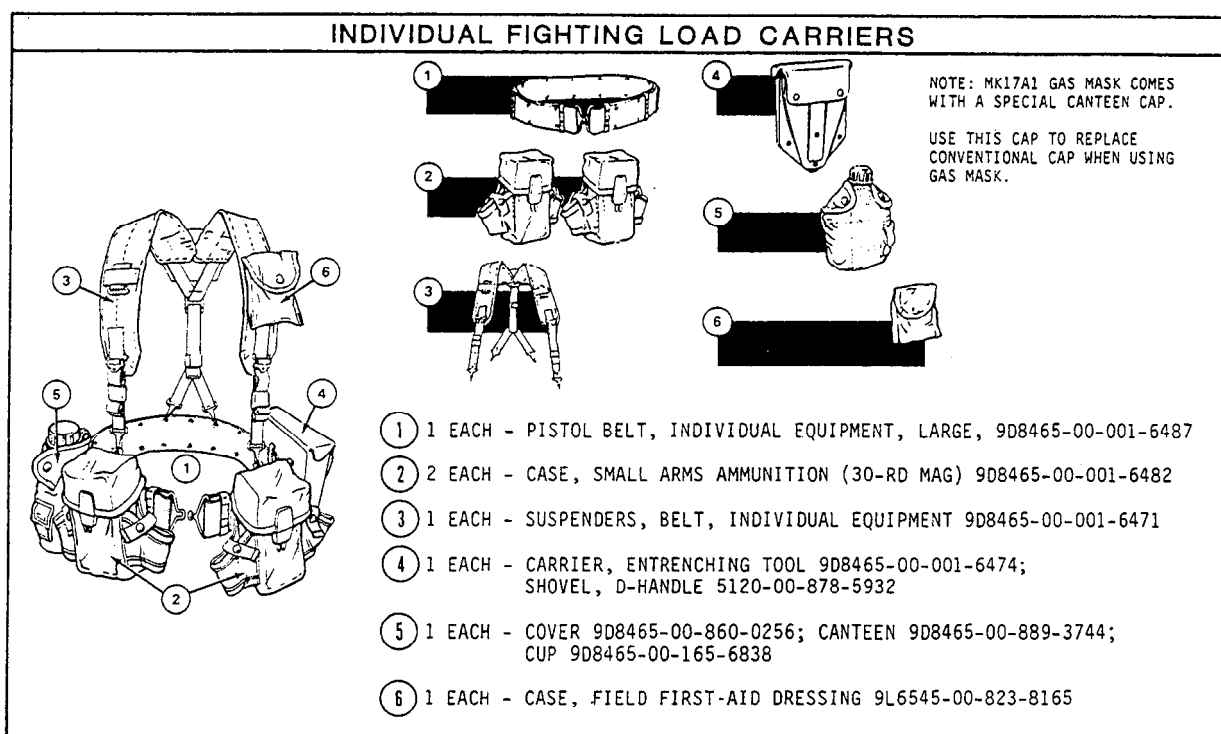
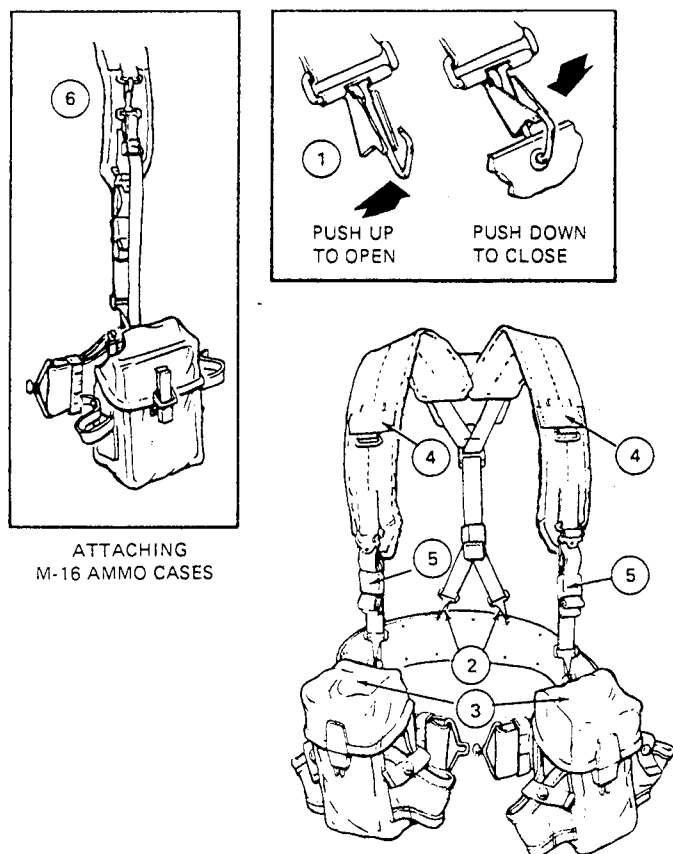

Figure 2-2.—Load-carrying equipment.
Figure 2-5.—Attaching the suspenders to the ammo pouches and pistol belt.
Fighting load equipment consists of the items shown in figure 2-2 and described below. Each item has
1. Pistol belt (item 1 of fig. 2-2). The olive drab webbed pistol belt, M-1956, has a special ball type of fastener that makes the belt easier to put on and take off. The belt uses eyelets for attachment purposes and has sliding keepers to prevent the belt hooks from becoming unfastened after adjustment to the waist of the wearer. The pistol belt helps to carry the entrenching tool and carrier, the ammunition pouches, the canteen and cover, and the first-aid or compass case. It is issued in two sizes: medium and large. Medium is the size for waist measurements under 30 inches; large is the size for waist measurements of 30 inches or more. The proper-size belt can be adjusted to fit over all layers of outer clothing, including the armored vest.
2. Ammunition pouches (item 2 of fig. 2-2). Each small-arms ammunition pouch is 4 1/4 inches wide, 6 1/4 inches high, and 2 1/2 inches deep. Plastic stiffeners are provided in the back of each pouch, so the clips of ammunition can be easily inserted and removed. There are two attaching clips and supporting straps on the back of the pouch, so they can be fastened to the pistol belt and to the suspenders. (See fig. 2-5.) Both sides of each ammunition pouch have attachments for carrying hand grenades. The pouches are designed to carry any of the basic loads of ammunition; however, with special weapons it may be necessary to carry more ammunition than the pouches can hold. When extra ammunition is needed, bandoleers of ammo may be carried in a cross-chest manner. To place bandoleers in pouches, make a neat bundle by folding the bandoleers accordion fashion and placing them in the pouches with the bandoleer strap on the top. This method permits the bandoleer to be inserted and removed easily.
3. Suspenders (item 3 of fig. 2-2). The olive drab webbed suspenders, with the pistol belt, make up the basic individual fighting load equipment, as the remaining components are suspended from them. The suspenders can be adjusted by means of the clamp type of buckle. Suspenders are issued in three sizes: regular, long, and extra long. If you are under 68 inches tall without shoes, wear the regular size. If over 68 inches, wear the large size. If you are tall or broad chested or intend wearing them over outer garments or the armored vest or both, wear the extra large size. When you have the time, you should try them on first.
4. Entrenching tool carrier (item 4 of fig. 2-2). The entrenching tool carrier is olive drab in color and is attached to the pistol belt by means of two clips located on the back.
5. Canteen cover (item 5 of fig. 2-2). The olive drab canteen cover has either a pile or felt lining and is attached to the pistol belt by means of two clips located on the back of the cover. The canteen cover accommodates the canteen and canteen cup. During warm weather, the lining should be kept wet to help keep the water cool. The cover should be kept dry during cold weather, as the lining helps to protect the water inside from freezing.
6. First-aid case (item 6 of fig. 2-2). The olive drab first-aid case is attached to the pistol belt by means of a clip located on the back. The case is closed by means of a flap that is secured by a glove type of fastener. The first-aid case is used either to carry a field dressing or an unmounted magnetic compass.
The following six steps used in attaching suspenders to the ammunition pouch and belt correspond to the six actions shown in figure 2-5: